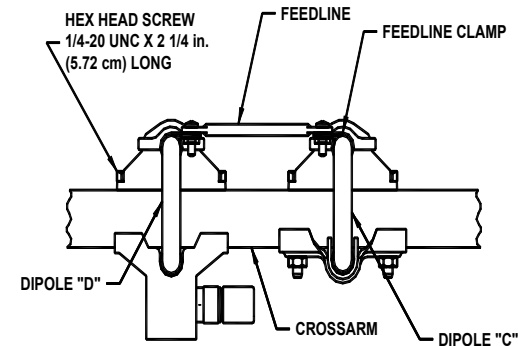

FIGURE 1
2. Next, starting with dipole "C" assemble dipole "C" and "D", to their marked locations on the crossarm as shown in Figure 1.. Use the 1/4-20 x 2 1/4" hex head screws.
1. Install 6 Clamping Bolts and Hex Nuts to the antenna base per Fig. 1.